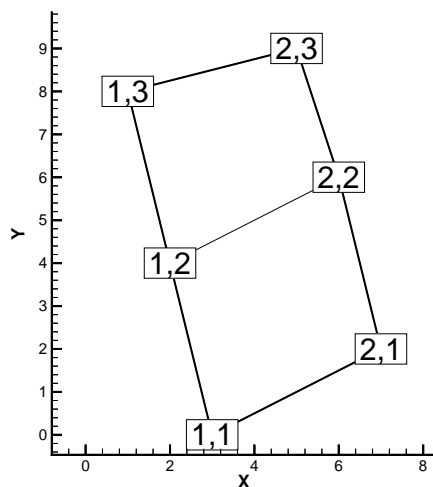

Figure 5-5. An IJ-ordered data set.
5.2.2.1. Example of IJ-Ordered Data in POINT Format. A simple example of IJ-ordered data in **POINT** format is listed below. There are four variables (**X**, **Y**, **Temperature**, **Pressure**) and six data points. In this example, each row of data corresponds to a data point; each column to a variable. The first two lines are for *J=1*, the next two for *J=2*, the last two for *J=3*. The first, third, and fifth lines are for *I=1*; the second, fourth, and sixth lines are for *I=2*. This data is plotted in Figure 5-5; each data point is labeled with its IJ-index.